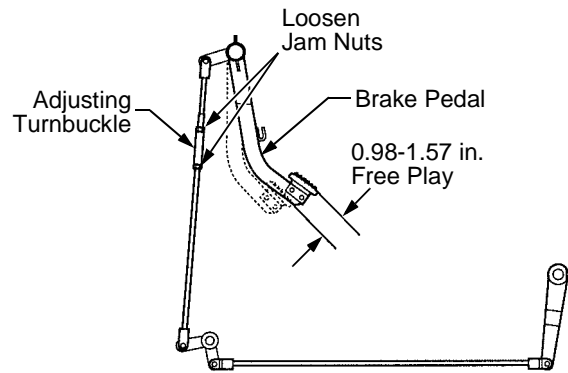

Figure 42
- Loosen the jam nuts from the turnbuckle on both the left and right brake adjustment rods. See Figure 42.
- Turn the turnbuckle on each rod until both the right and left brake pedals are within the acceptable range of play. See Figure 42.